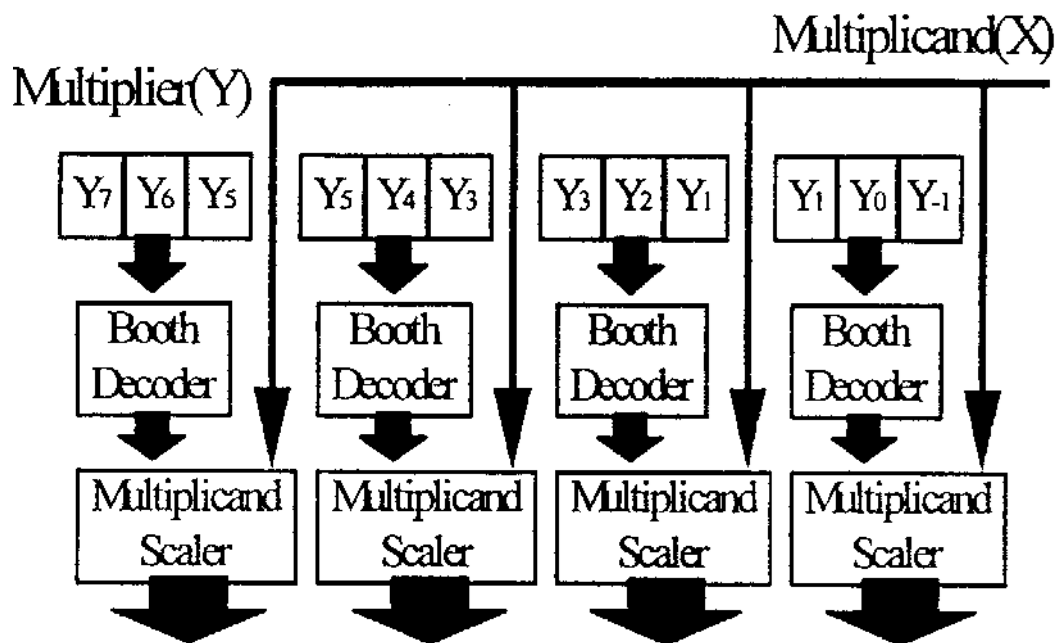

Fig.1
(1) Show your block diagram as shown in Fig.1 below (example for the case of 8-bit; Booth decoder and Multiplicand scale corresponding to Booth Encoder and Booth selector of Fig.10.80). For each block, you shall show its logic design diagram. Indicate the critical path. Explain your design concepts (30).